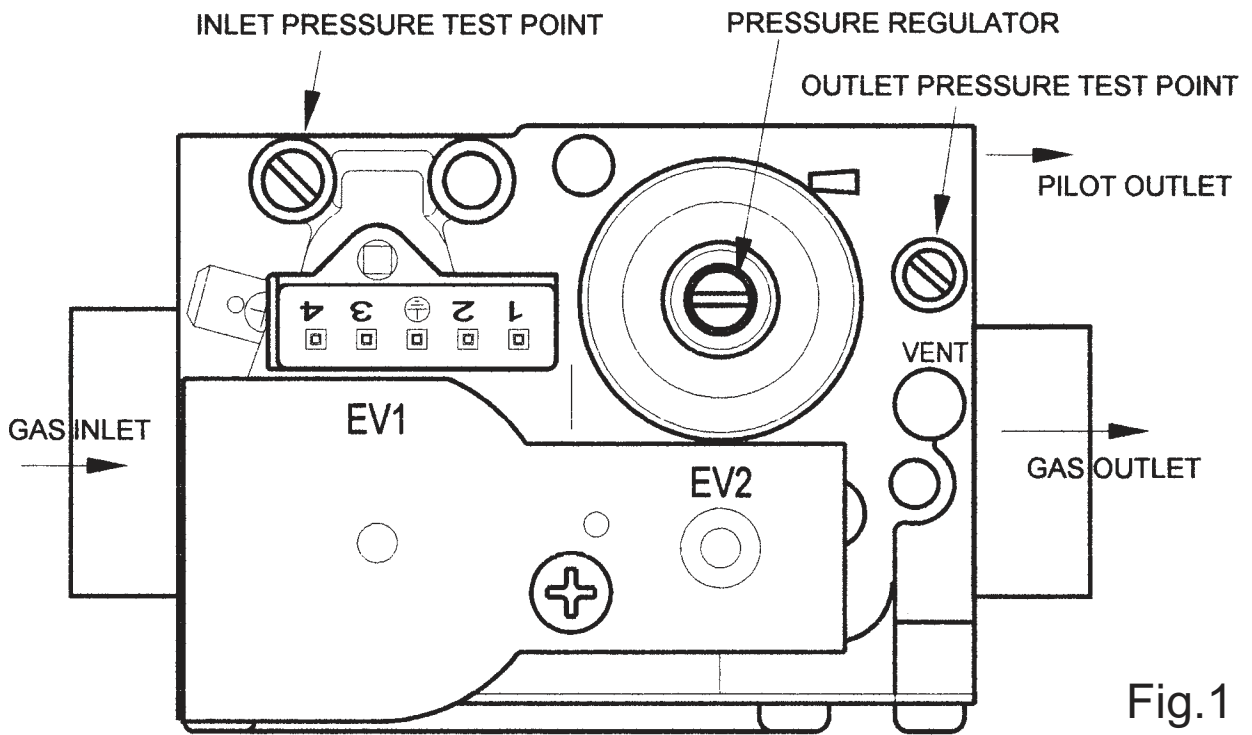

Fig.1
**IMPORTANT.** It is essential when setting the burner pressure that the inlet pressure is at least 20 mbar (NG), 37 mbar (LPG) with the boiler and any other connected appliances running.
*Set the burner pressures to the correct pressure by using a manometer connected to the control and adjusting the regulator to the desired input. (see the charts below and Fig.1)*